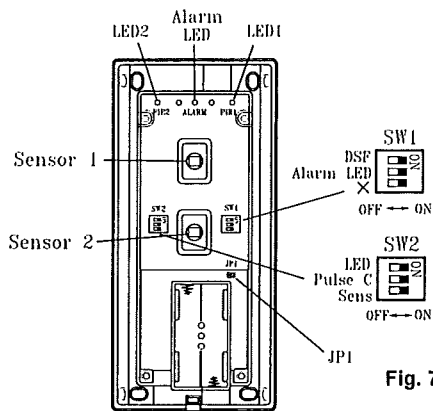

Fig. 7
There are two DIP switches and a jumper JP1 on the PC board, each switch has 3 positions. Refer to Fig. 7. Setting description as follows, SW1,
3. If necessary you can check the detection status of the two sensors by setting jumper JP1 at "ON" position and SW2 position 1 to ON, refer to Fig. 7. Under this condition, the LED1 for sensor 1 and the LED2 for sensor 2 would react independently, and then you can adjust the mounting height to fulfill your detection coverage if needed. Note that only when the two sensors detect motion simultaneously, the PIR triggers alarm.
The PIR-OD1 is equipped with a selectable pulse counter to adapt different environment. It can be selected by placing the jumper on the desired setting. Refer to the SW2 of Fig. 7 and above paragraph "ABOUT SETTING ON PCB".
To prevent the PIR from being discovered easily by the intruder, LED can be disabled by putting SW1 position 2 at OFF position, see Fig. 7. However the LED would be enabled automatically when the PIR is in "TEST" mode.